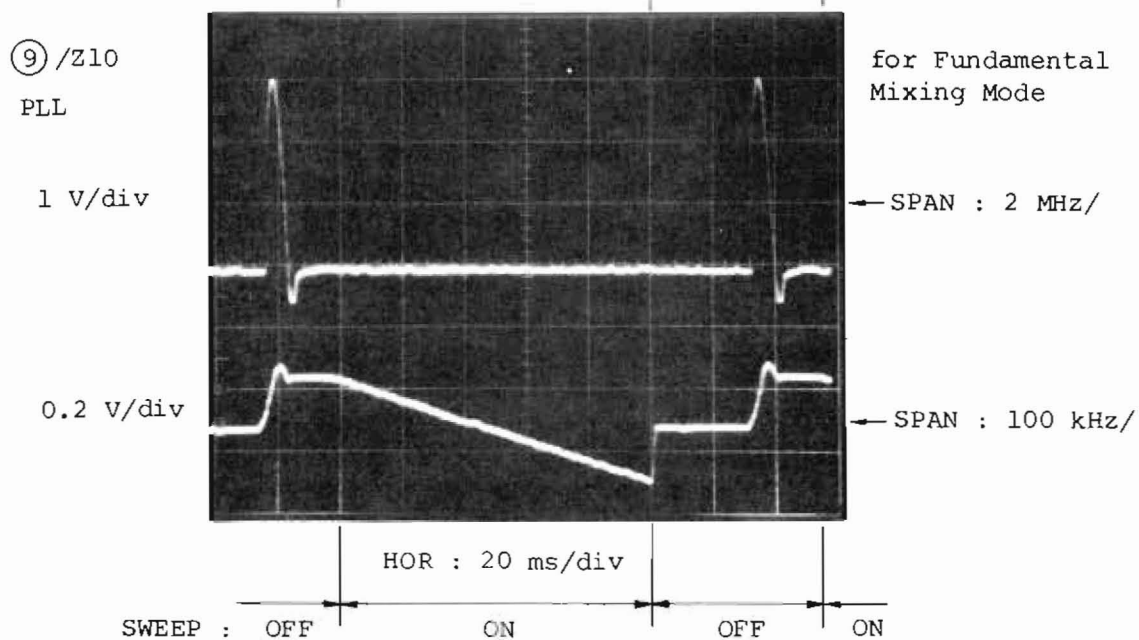

Fig. 5-15 YTO FM Coil Driver Check Points
10.	Observe the voltage at Z10 checkpoints ⑦ and ⑧ and confirm as shown in Fig. 5-15.
12.	<p>If a normal status results in Item 11, the Z16 PLL block is assumed to be faulty.</p> <p>In a normal operation status, voltage ⑨ appears as the waveform shown in Fig. 5-15.</p>
14.	Observe the voltage at checkpoint ⑨ and check it as the lower waveform shown in Fig. 5-15.
15.	Check the voltage at Z10 checkpoints ⑩ and ⑪ . If each voltage is approximately +6 V and +4 V under normal environmental conditions (ambient temperature of approximately 25°C), it is normal.